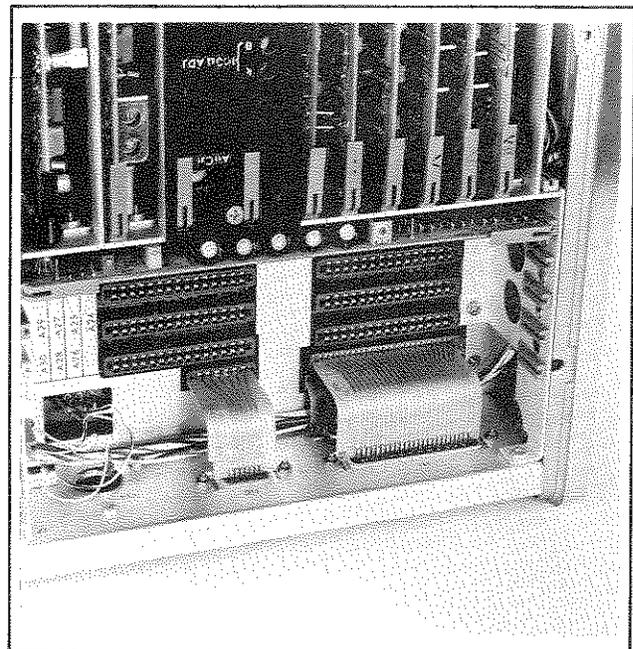

Figure 3-9 Connection Board.
2. Connect connector jack with connection board to rear panel of 4271A (See Figure 3-9).